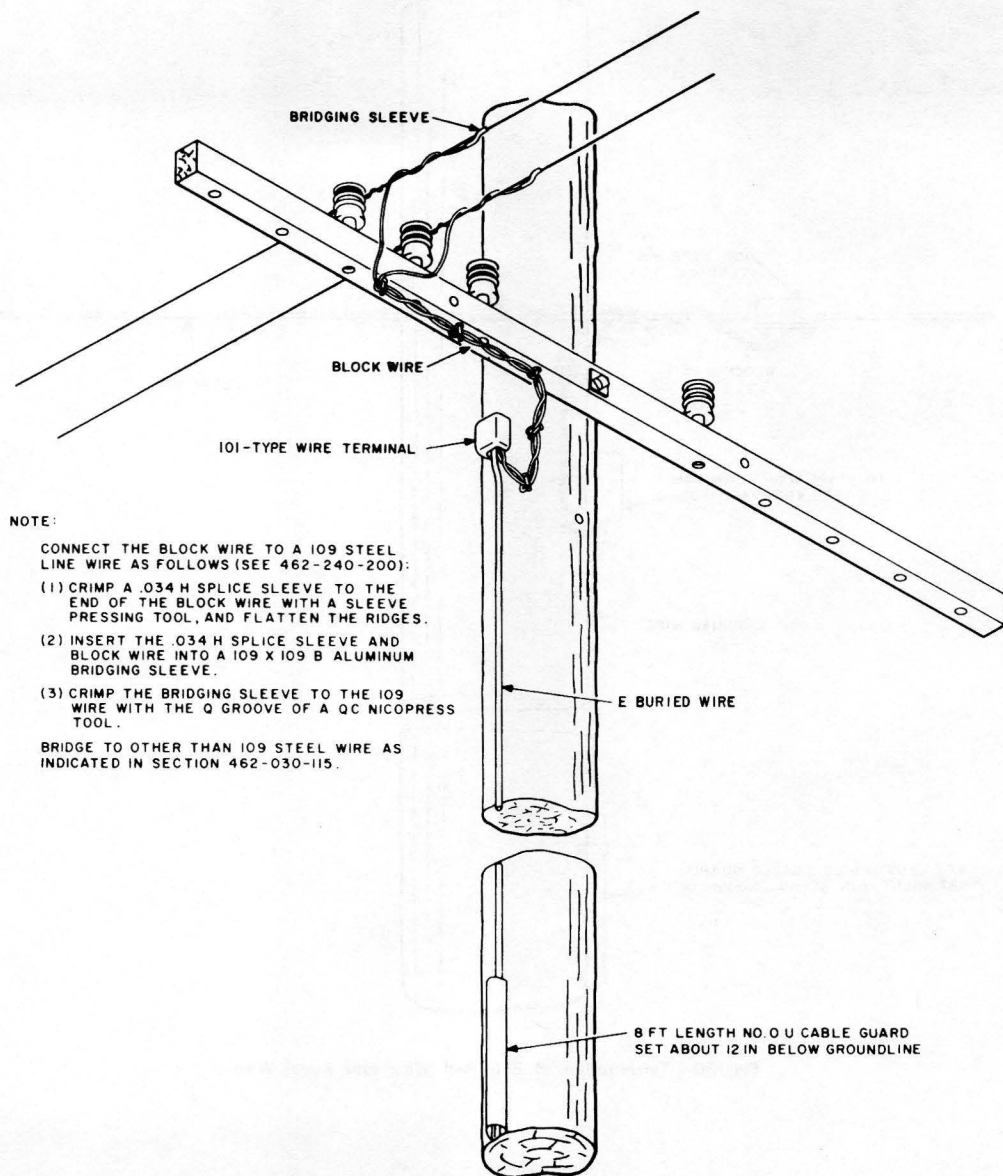

Fig. 31—Termination of E Buried Wire and Open Wire
10.02 At the junction with open wire, ♦E buried♦ wire can be brought up a pole and terminated in a 101B2 wire terminal. ♦The metallic shield should be cut off and taped as shown in Fig. 26.♦ Block wire must be used between the protector and the open wire. At the groundline, the wire should be covered with an 8-foot length of No. 0 U cable guard. A typical installation is shown in Fig. 31.